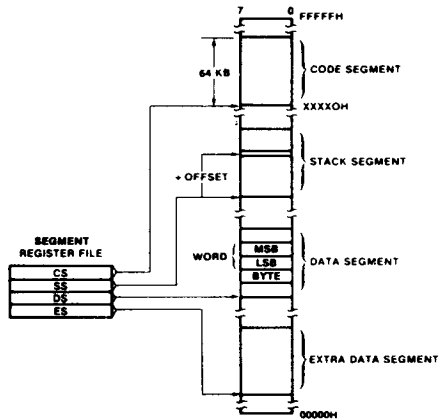

Figure 2. Memory Organization
The processor provides a 20-bit address to memory which locates the byte being referenced. The memory is organized as a linear array of up to 1 million bytes, addressed as 00000(H) to FFFFF(H). The memory is logically divided into code, data, extra data and stack segments of up to 64K bytes each, with each segment falling on 16-byte boundaries (see Figure 2).